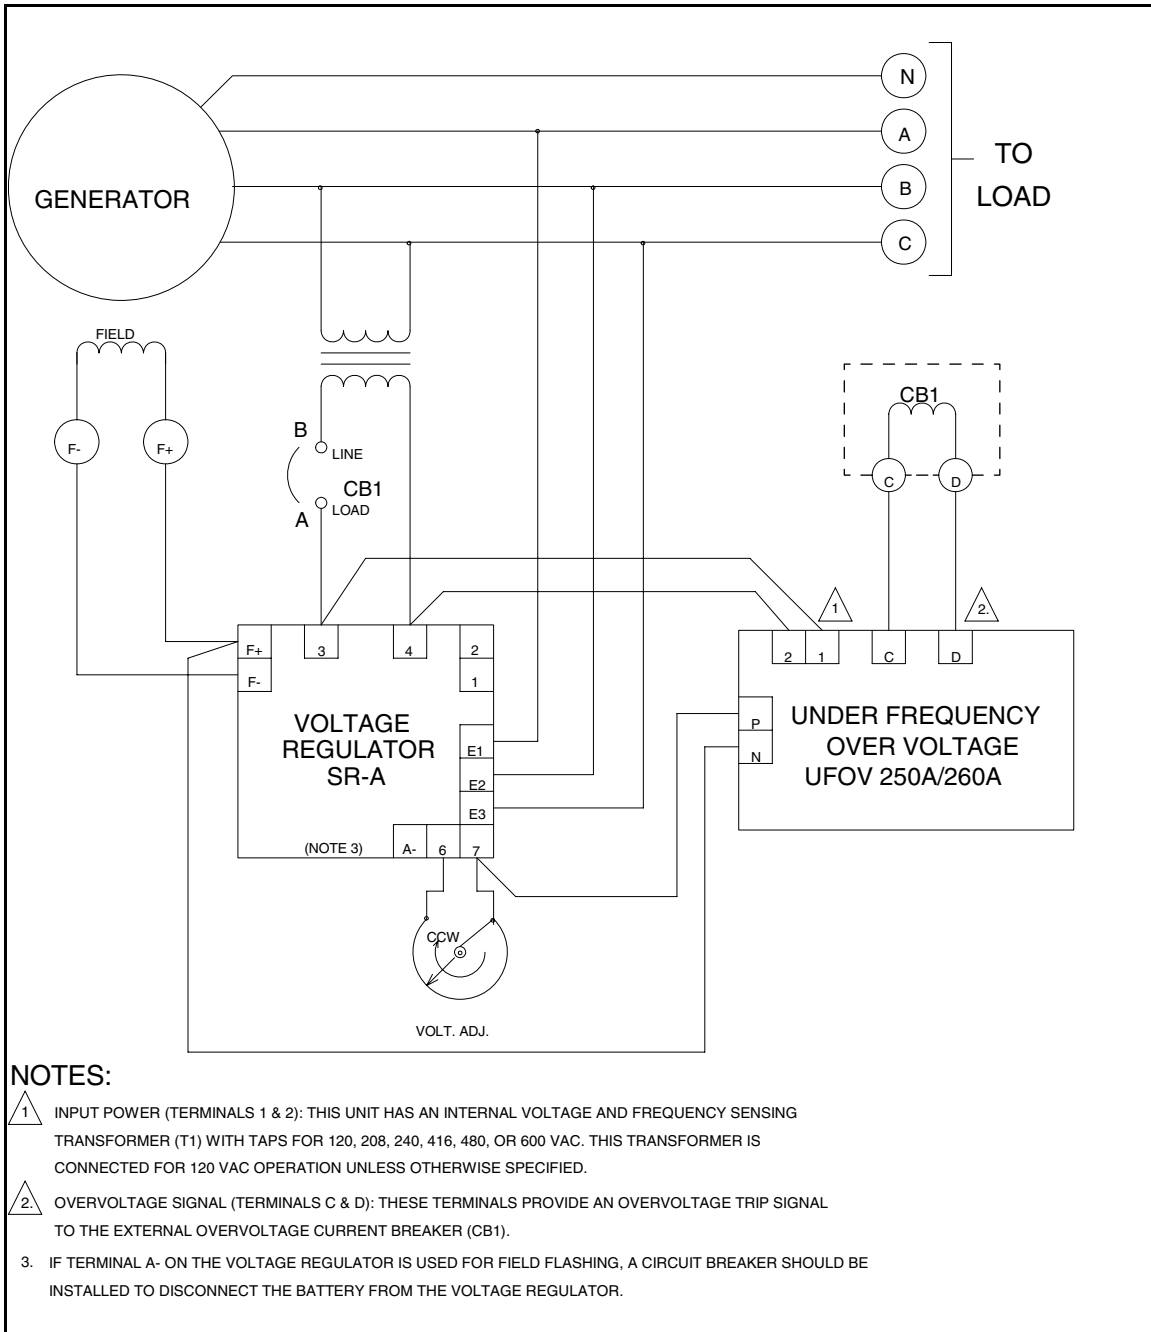

Figure 3-4. UFOV and SR4A and SR8A Voltage Regulator Interconnection Diagram.
a. General. The unit is connected to the regulating system as shown in Figures 3-4 through 3-9. A check of the complete system wiring for completeness and correctness should be made before system operation is attempted.